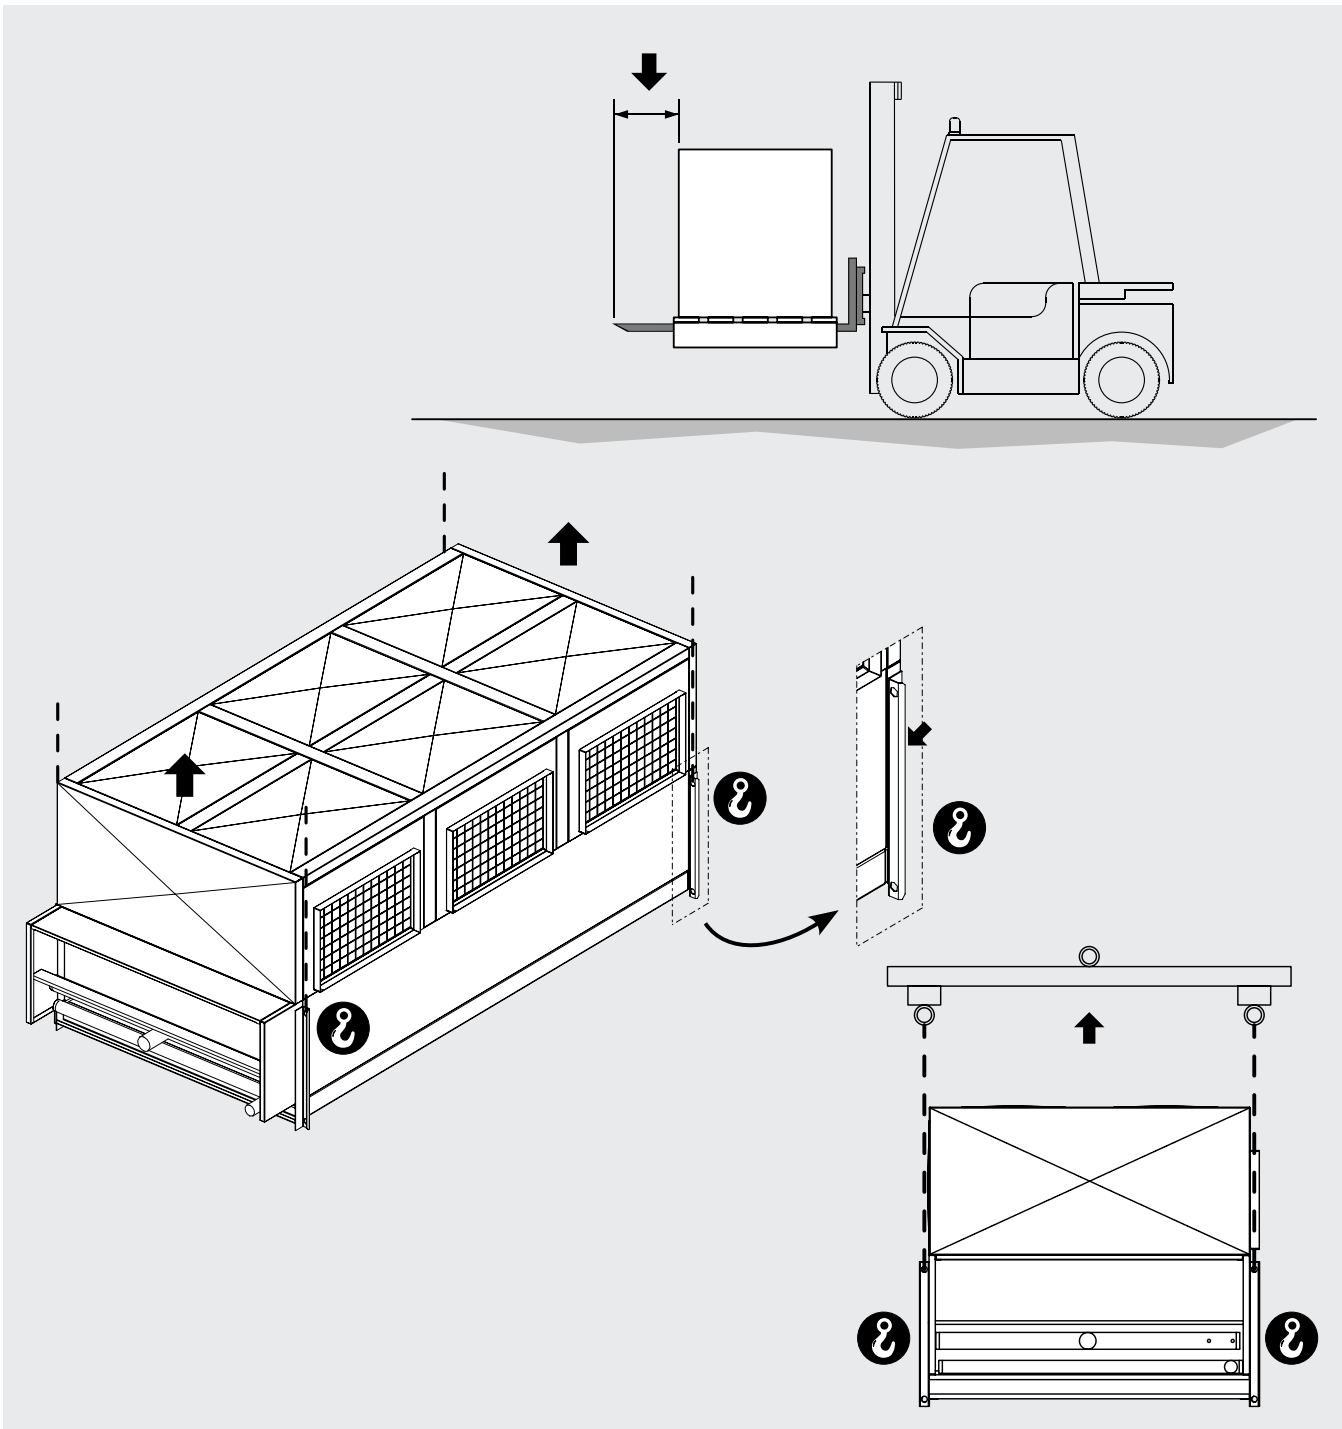

Figure 3
- 5.2 The packaged model must be handled by qualified personnel using a forklift with suitable capacity, or a crane and/or bridge crane (see Sect. 7). The lifting forks must be longer than the depth of the packaging and/or of the model. Avoid any abrupt movement and do not stand close to the manoeuvring area. Always ensure that the models are secured to the hoists before handling operations. A heavy impact or a strong thrust can overturn the model. See Figure 3.
- 5.11.4 Lift the unpacked model, securing it to the side lifting brackets. See Figure 3. Do not walk or stop under suspended loads: crushing hazard. Use stands or other support structures.